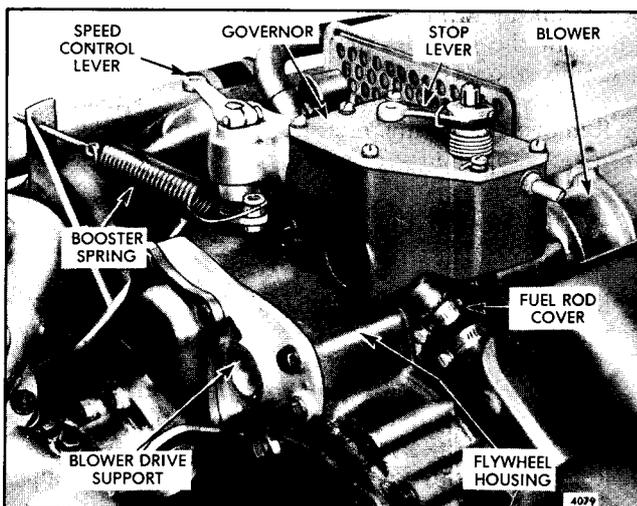

Fig. 1 - Governor Mounting
4. Mount the fuel pump, coupling and gasket on the governor housing (Fig. 1), turning the pump shaft until the coupling engages the drive end of the governor operating shaft. Secure the pump to the governor with three  $5/16"$  -  $18 \times 7/8"$  bolts.
The variable speed mechanical governor, illustrated in Fig. 1, performs the following functions:
1. Disconnect the throttle control rod and the booster spring from the speed control lever (Fig. 1).